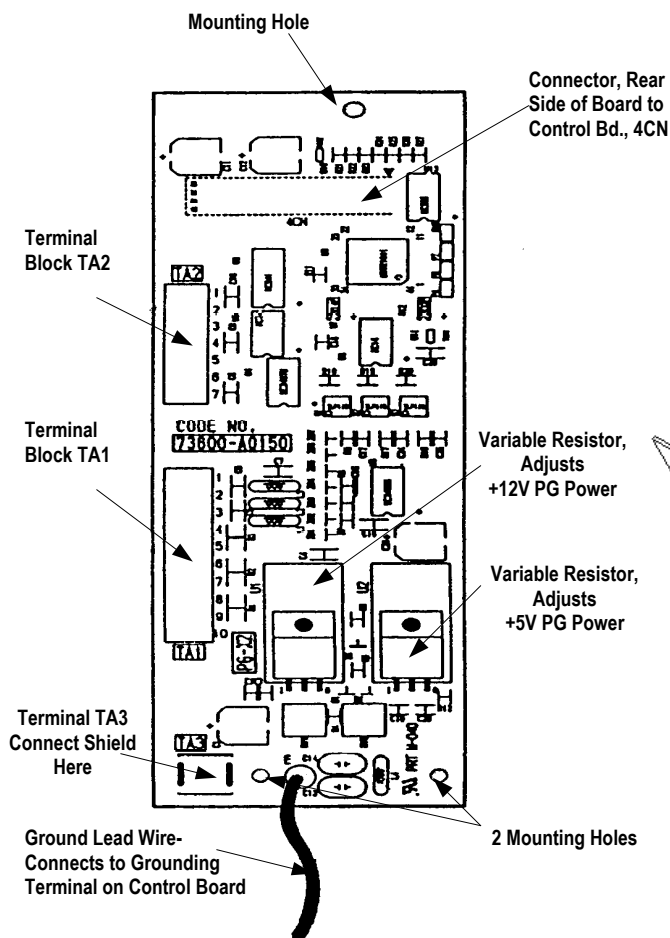

Figure 1. PG Speed Control Card PG-X2
Introduction. The PG Speed Control Option Card PG-X2 (Figure 1) is mounted on the drive's Control Board and performs speed feedback using the pulse generator (PG) on the motor to correct speed fluctuation caused by motor slip. Motor rotation direction is detected by phase A and phase B PG pulse inputs. The card can be used for flux vector control or V/Hz with PG feedback control.